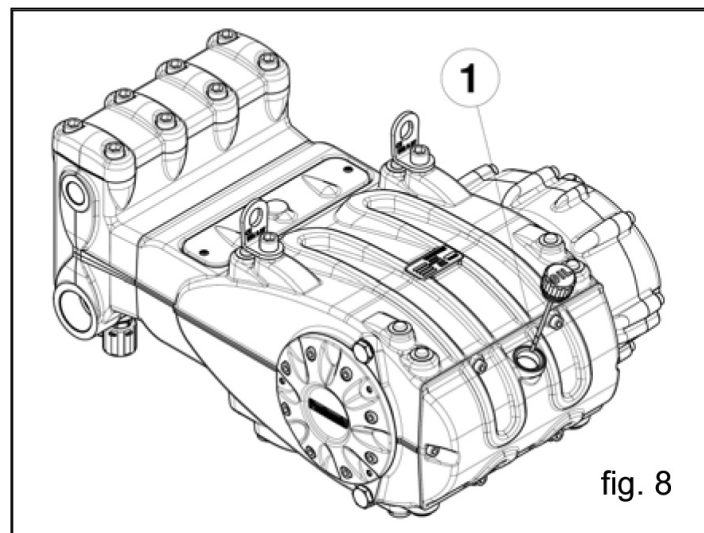

fig. 8
5. The pump's oil level must be verified using the correct dipsticks (position 1, fig 8).